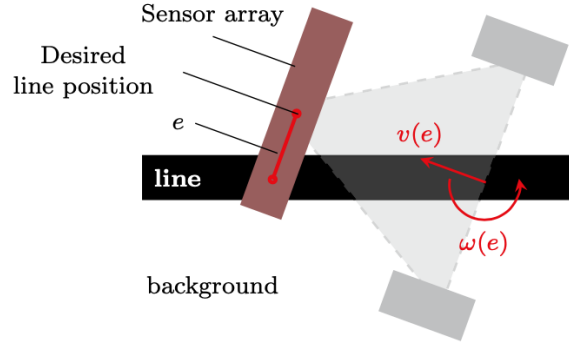

Figure 1.5: Open-loop test to illustrate the required control effort to steer the robot over the line
- Now, assume that the robot is away from the centre of the line by some distance. In order to reduce the error, a control effort must be given as illustrated in Figure 1.5. However, the exertion of a constant control effort will cause the robot to overshoot the line.